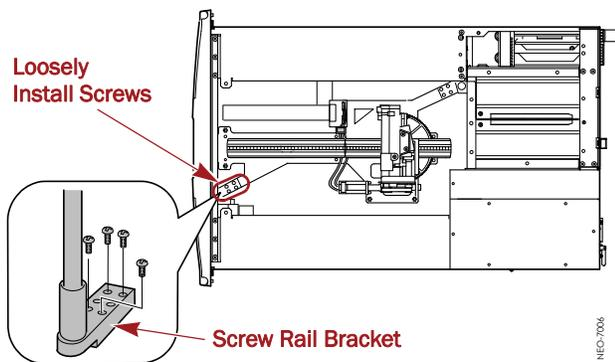

Figure 8. Loosely Install Screw Rail Bracket Screws
4. Attach the Screw Rail bracket to the **track plate** assembly (Figure 8) on the chassis floor as follows: